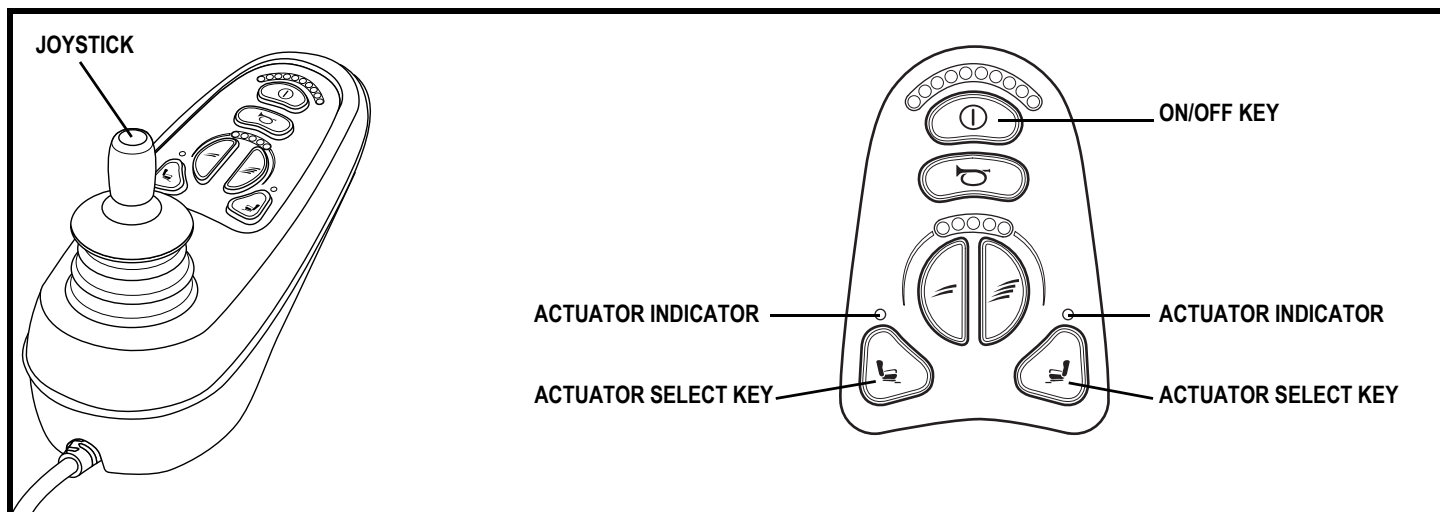

Figure 12. VR2 6-key Controller and Keypad
1. Push the on/off key to power on the chair and the controller. See figure 12.
2. Push the actuator select key to select actuator mode. Both actuator lights will illuminate. See figure 12.
5. Push the actuator select key to return to drive mode. See figure 12.